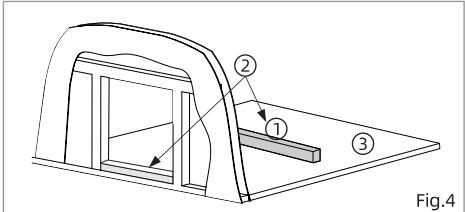
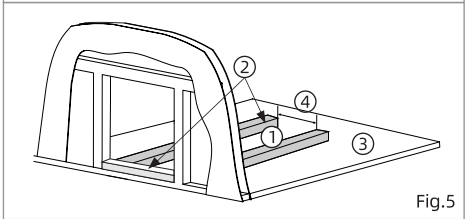

Fig.4
Fig.5
6. If necessary, create a platform to support the water heater. Fig.4 and Fig.5 are some common solutions. Ensure the platform is level front to back, and side to side after securing to the RV.